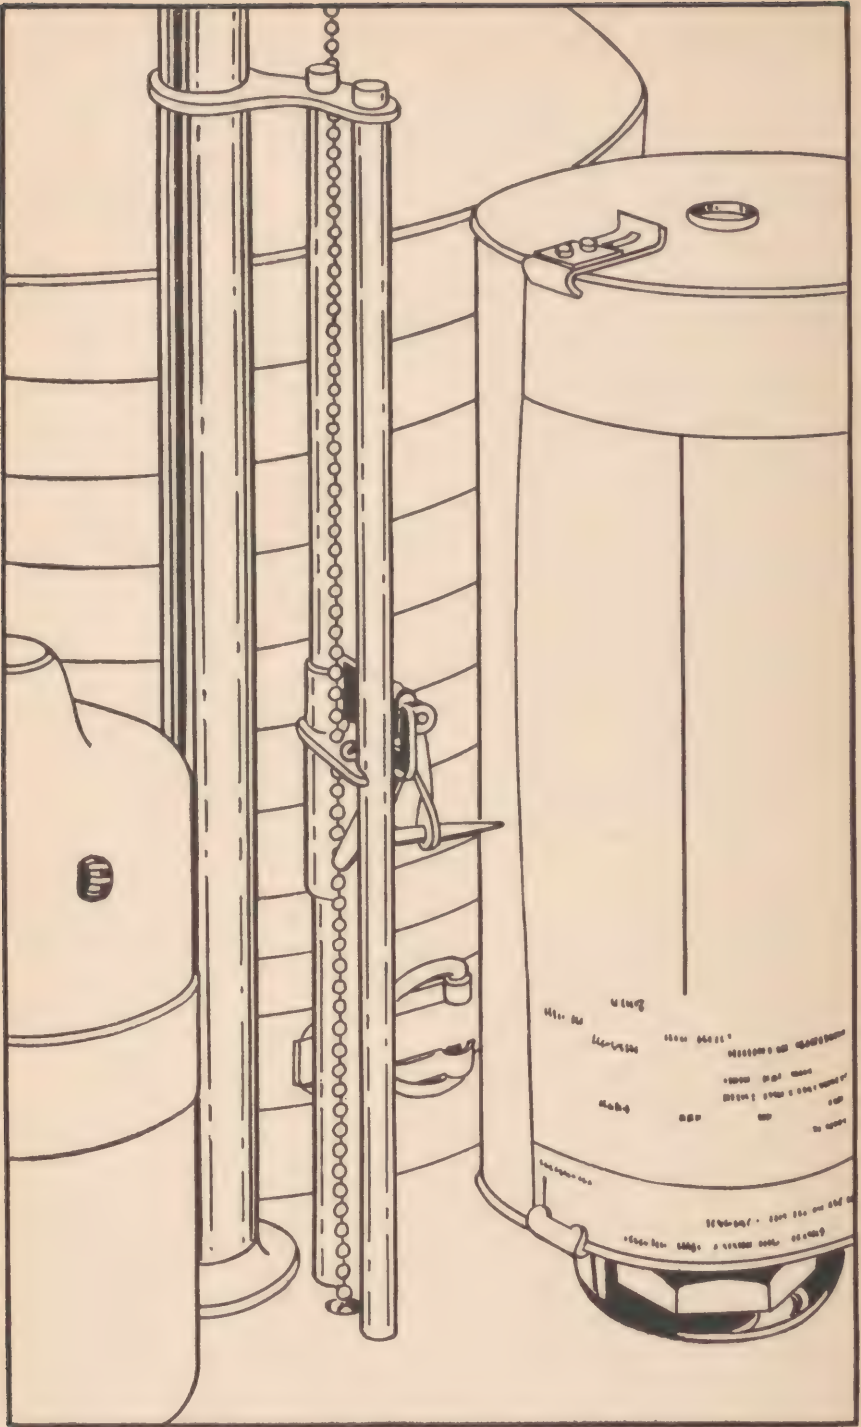

Figure 8. Position of pen for beginning test.
(2) Slide out chart-holding clips.
(3) While holding cylinder *upside down*, wrap a chart around it, right side up.
(4) Slide right edge, marked "this edge underneath," under the clips, bring left edge around and overlapping right edge; adjust chart to fit snugly on the cylinder and close the clips to hold it.
(5) Slide cylinder down on the spindle, pushing it firmly over the ball friction grip until it reaches the bottom of the spindle.
(6) Turn the cylinder counterclockwise until the stylus has just crossed the overlap of the chart. (See fig. 8.)
b. Admit oxygen. (1) Turn breathing valve clockwise.
(2) Press bellows down nearly as far as it will go.
(3) Turn breathing valve counterclockwise.
(4) Open oxygen valve handwheel slowly counterclockwise until oxygen enters the bellows. The writing point will fall as the bellows fills. Admit oxygen *slowly*. Enough oxygen for testing the average patient will raise the upper edge of the bellows to the level of the cylinder top. (See fig. 8.) More oxygen may be admitted for a large person or a suspected exophthalmic case.
(5) Close oxygen cylinder valve by turning handwheel clockwise.
(6) Close oxygen valve.
d. Connect mouthpiece. (1) Turn the breathing valve to the OFF position.